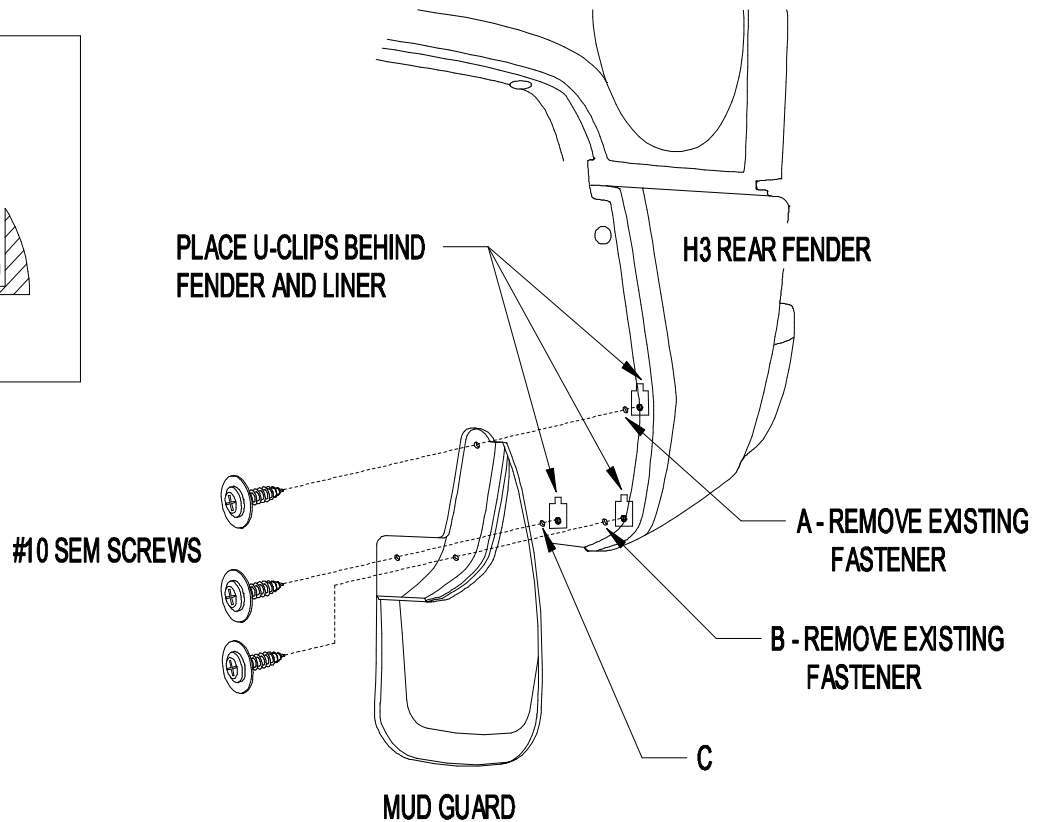

Figure 1
2. Remove existing fasteners from locations A and B (Figure 1).
3. Attach mud guard to rear fender with a #10 SEM screw, thru mud guard, fender / fender liner and into a U-clip on the backside of the fender liner at locations A and B (Figures 1 & 2). Check fit and level before tightening.